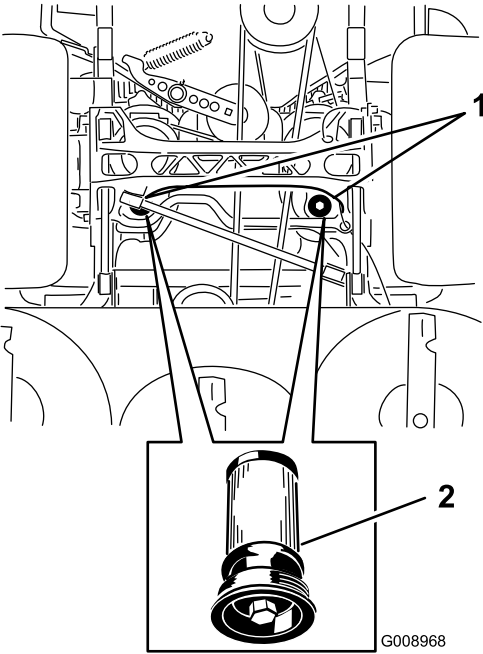

Figure 105
5. Place a drain pan under the filter, remove the old filter, and wipe the surface clean (Figure 105).
6. Apply a thin coat of hydraulic fluid to the rubber gasket on the replacement filter (Figure 105).